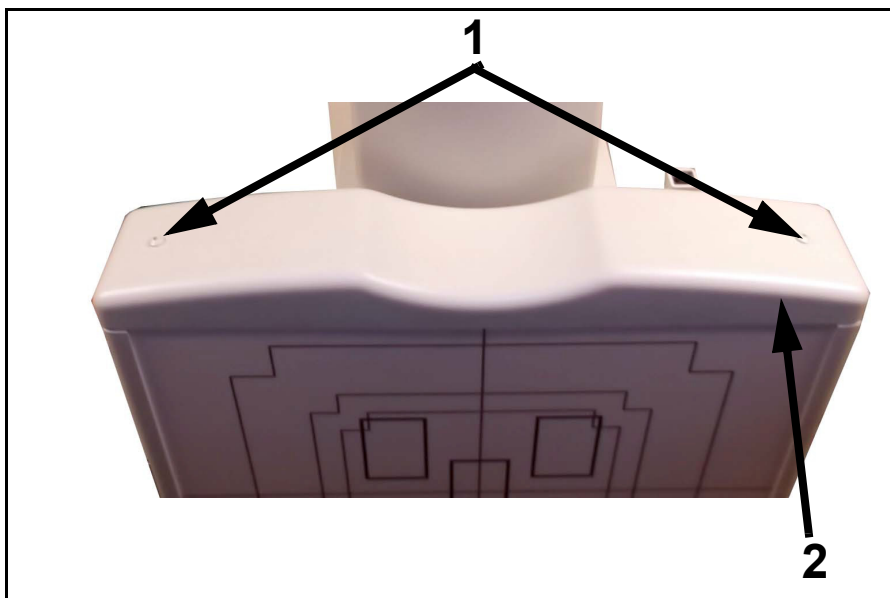

Figure 5-3. Top Cover Screws
- 2 Unscrew the two top cover screws (1 in Figure 5-3) and remove the top cover (2).